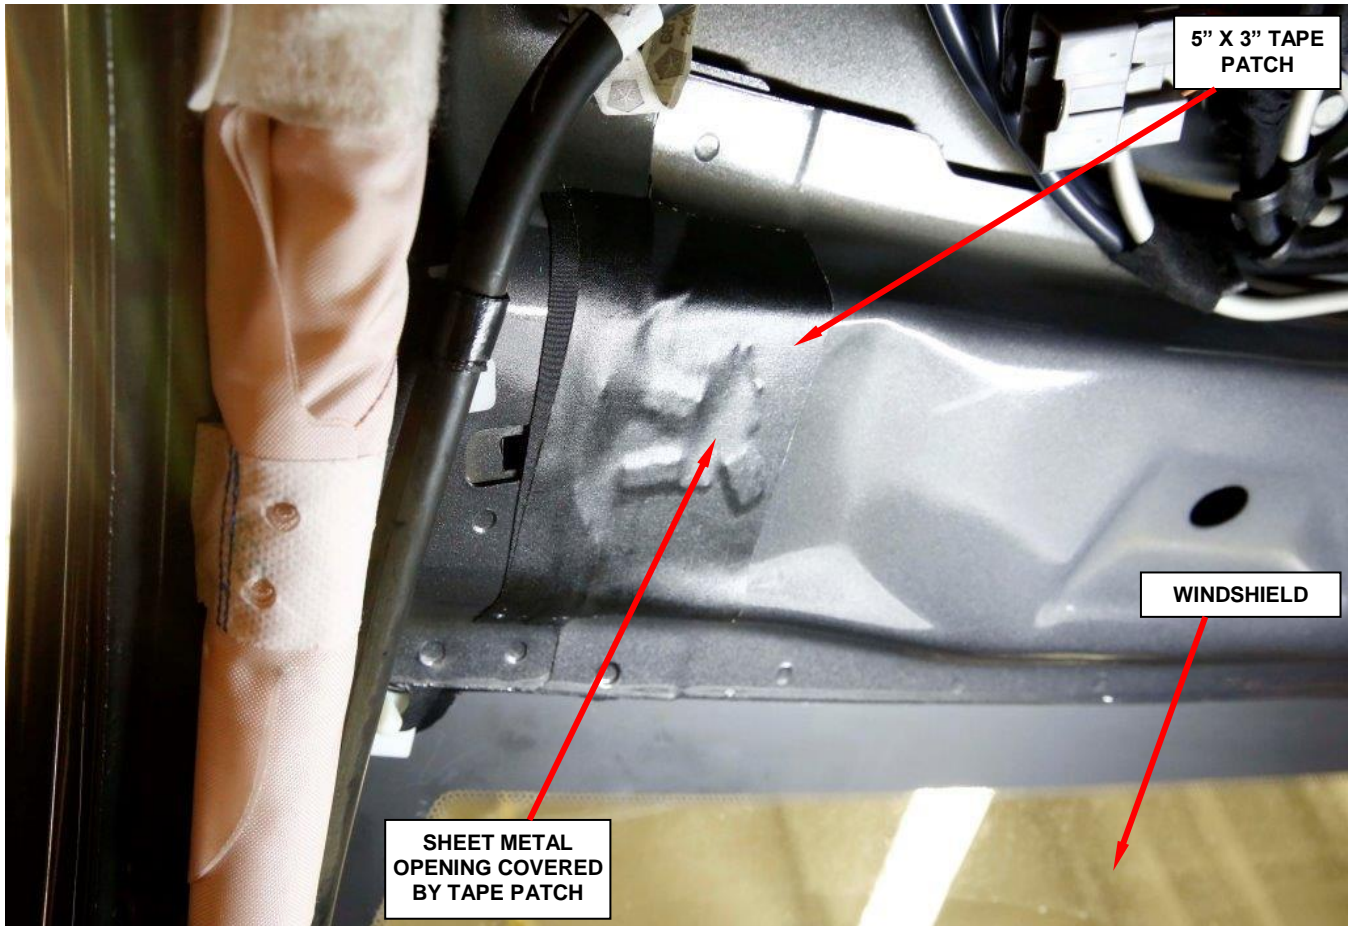

Figure 21 – Apply 5”x 3” Tape Patch over the Abrasion Tape (left side shown)
- 47. Apply one piece of (5”x 3”) tape patch over the tape applied in Step 46 (Figure 21).